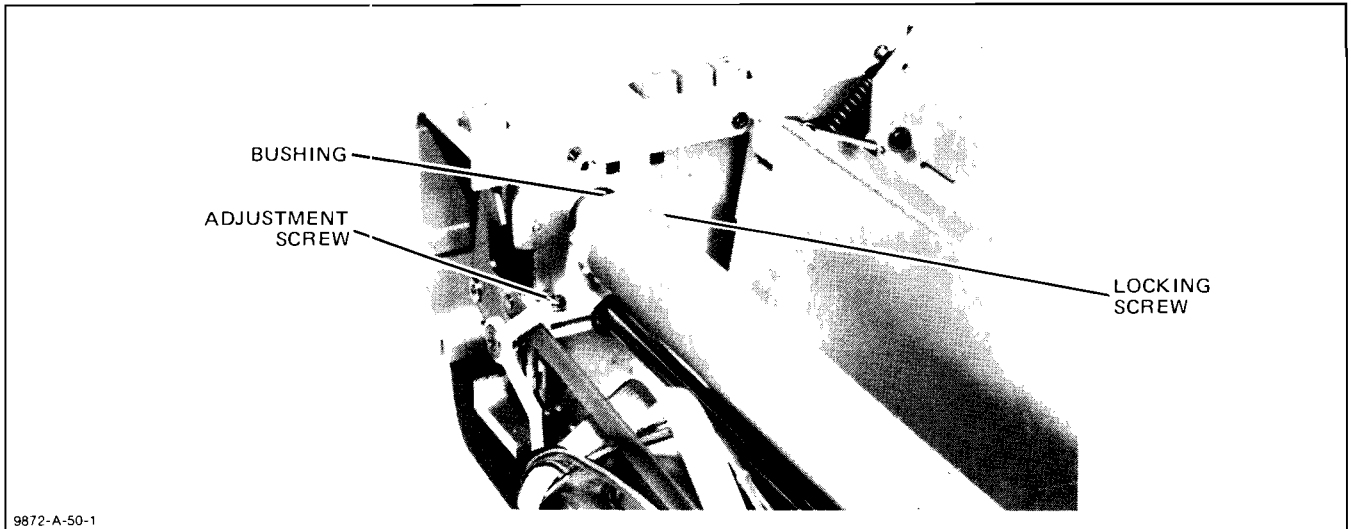

Figure A6-10. Drum Bushing Replacement
- b. Remove the drum alignment bushing adjustment and locking screws. See Figure A6-10.